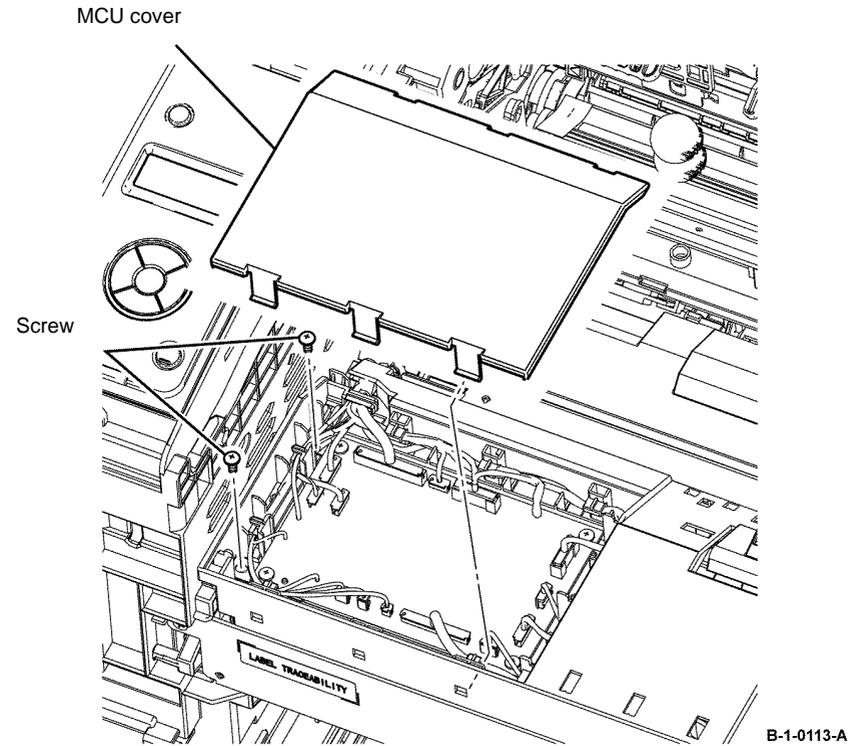

Figure 1 MCU cover removal
14. Remove the MCU cover, then remove two screws (silver, M3, 6mm) from the left side, Figure 1.